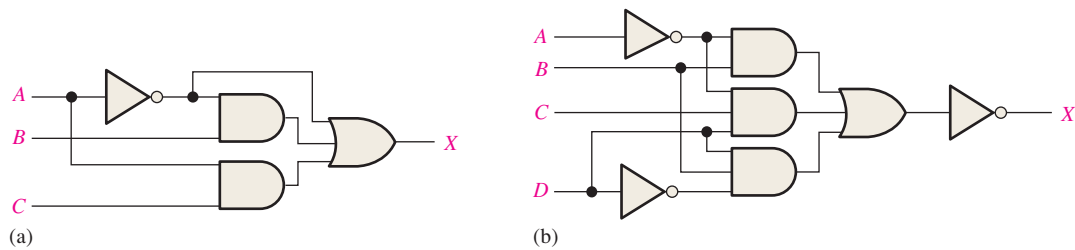

FIGURE 5-54
2. Write the output expression for each circuit in Figure 5-54.